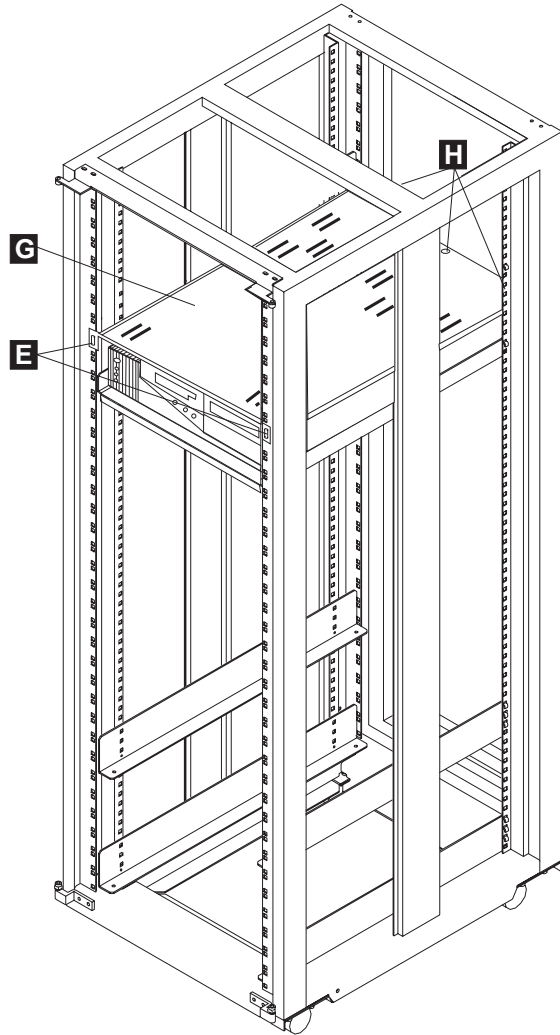

Figure 5-5. Upper Plate Removal (2)
5. At the rear of the rack remove the screws **H** which secure the upper plate **G** on the rear support (see Figure 5-5 on page 5-5).